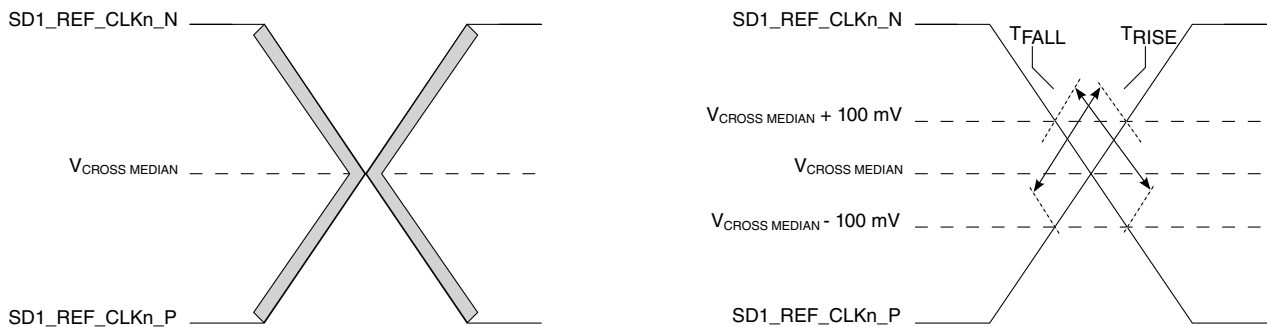

Figure 78. Single-ended measurement points for rise and fall time matching
- Matching applies to rising edge for SD1_REF_CLKn_P and falling edge rate for SD1_REF_CLKn_N. It is measured using a 200 mV window centered on the median cross point where SD1_REF_CLKn_P rising meets SD1_REF_CLKn_N falling. The median cross point is used to calculate the voltage thresholds that the oscilloscope uses for the edge rate calculations. The rise edge rate of SD1_REF_CLKn_P must be compared to the fall edge rate of SD1_REF_CLKn_N, the maximum allowed difference should not exceed 20% of the slowest edge rate. See Figure 78.